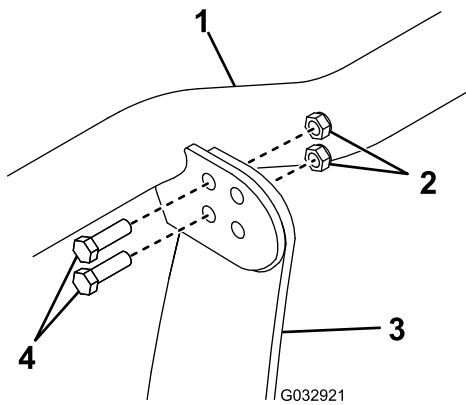

Figure 14
- Secure the light bar to the top of the coupler tower through the rear holes using 4 bolts (3/8 x 1-1/4 inch) and self-locking nuts (3/8 inch) (Figure 14). Torque the bolts to 31 N·m (23 ft-lb).